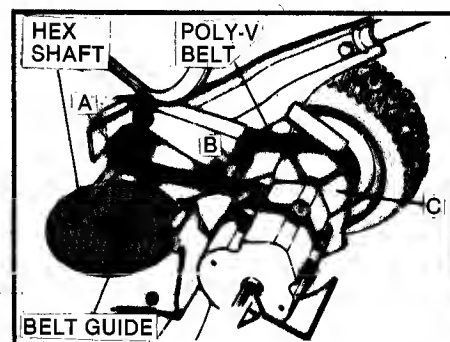

FIG. 18 - POLY-V BELT REPLACEMENT
POLY-V-BELT REPLACEMENT: The driven disc assembly must be removed first. Note the arrangement of the old belt around the three pulleys before cutting and removing it. Slip the replacement belt over the end of hex-shaft and onto pulley (A). Then work it onto idler pulley (B) and twist it sideways and pull upward between the differential bracket and transmission pulley (C) and then down into the pulley's groove. Make sure the belt is in each pulley's groove! Refer to FIG. 18.